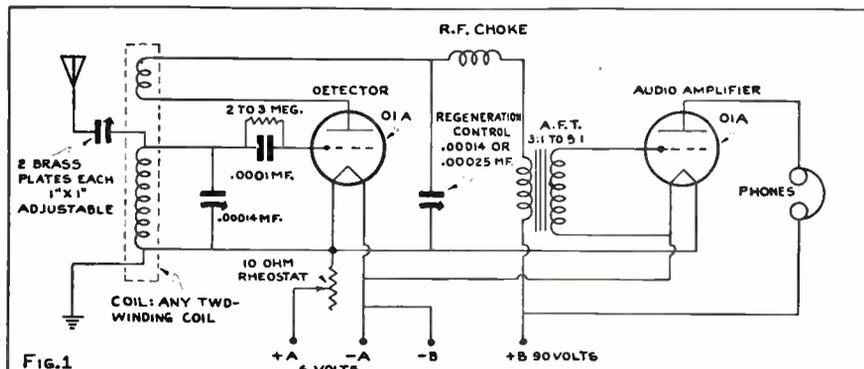
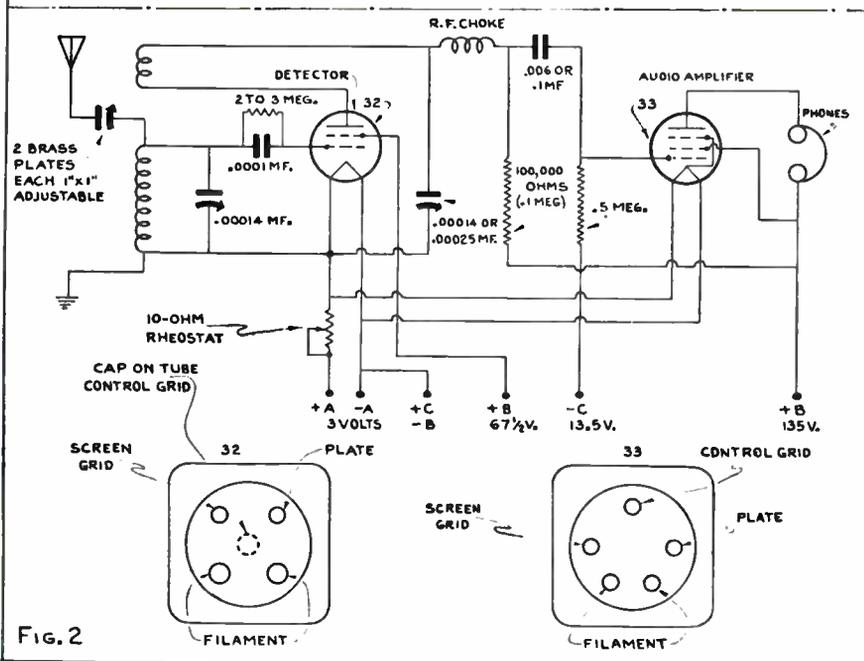
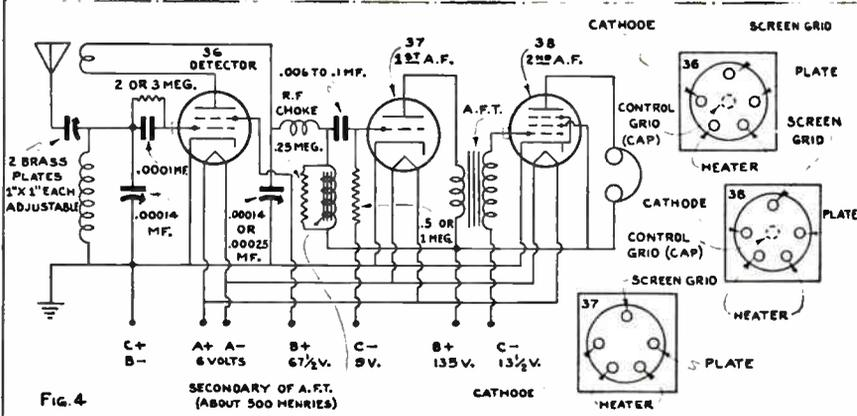
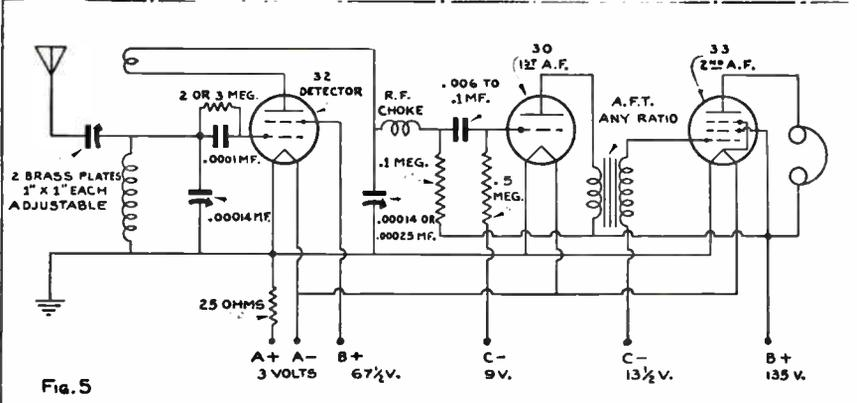

FIG. 1
FIG. 2
Fig. 4
Fig. 5
Another point of considerable importance is the fact that the angle at which the original wave from the transmitter strikes the ionized layer determines the distance between the transmitter and the zones of reception. This point is illustrated in Fig. 2. The solid line corresponds to a signal of, let us say, 10,000 kc. (30 meters), while the dashed lines correspond to another signal of the same frequency, but making an angle with a vertical line VT of *a'* instead of *a*. The first signal strikes the earth at points R1, R2, R3, R4, etc., while the second strikes the earth at R', R''.
Aside from the fact that the skip distances of the second signal are greater than those of the first signal, another phenomenon occurs. Suppose the angles of the original signals from T remain as illustrated in Fig. 2, but the frequency of the first signal is increased from 10,000 kc. to, let us say, 30,000 kc. As stated previously, the higher frequency signal will penetrate the layer to a greater extent than the lower frequency signal, so that the one making the smallest angle with the line
One of the most popular sets a few years ago was the original *Junk Box* receiver designed by our own Robert Hertzberg. The receiver is extremely simple: it uses two tubes, both 01A's, in a conventional, time-tested circuit. See Fig. 1. There have been no great advances in circuit design since this set was developed; to obtain better reception, all that can be done is to install more modern tubes—tubes that are designed to deliver greater signals.
The revised diagram is shown in Fig. 2. The first thing to do is to replace the four-prong socket used with the audio 01A with a five-prong socket; the same socket may be used with the 32 as was used with the first tube the 01A—before. Thus, only one new socket is required. The connections to the first tube socket remain the same substantially; the former control grid post is now the screen connection, while the grid leak and grid condenser connect to the cap on the top of the 32 tube. Next, remove the audio transformer, and in place of its primary insert a 100,000-ohm resistor (100,000 is the same as .1 megohm, or meg.); in place of its secondary, insert a .5 megohm resistor. Then connect the junction of the r.f. choke and
the .1 meg. resistor to the grid of the 33 through a fixed condenser which may have any value between .006 and .1 mf. The 10-ohm rheostat is retained. Connect the screen grid of the 32 to 67.5 volts and the screen of the 33 to the B plus side of the phones. Finally, connect the various C leads, finish the few connections to the socket of the 33, and the job is finished. For convenience, the socket connections of the 32 and 33 are given in the insert of Fig. 2.
Note that the original circuit of Fig. 1 used no C bias on the audio stage. This point was not overlooked in the original design of the set, but since it was made from spare parts in the junk box, the question of quality was not considered important. In the revised version of Fig. 2, a C battery is necessary for the successful operation of the output tube.
Another point of interest is the fact that the audio transformer used in Fig. 1 was replaced by a standard resistance-condenser combination. True, transformer coupling gives better results—from the standpoint of volume—than resistance coupling, but not in cases where the coupling takes place from a screen-grid tube. Many sets use the second or primary of audio transformers in place of the .1 meg. resistor shown in Fig. 2; however, the resistor is to be preferred. Try both and see which works better in your own case.
**6-volt operation:** Figure 4 is the new circuit suitable for 6-volt operation. A 36 is used as the detector. A 37 in the first-audio stage, and an 38 in the last audio stage. The socket connections of these tubes appear in the insert in the figure. The first significant change is the use of a choke and resistor in place of the first a.f.t. in the plate circuit of the 36. This arrangement allows the d.c. plate current to pass through the choke with a minimum loss in voltage. The .25 meg. resistor across this choke is used as the coupling unit. The choke does not couple, because its impedance at 1,000 cycles is far greater than 250,000 ohms (.25 meg.), so that the resistor shorts it only as far as the signal is concerned. Thus, we gain one of the best advantages of the
**2-volt operation:** The circuit for 2-volt operation requires, of course, a different tube arrangement. In this case, we suggest a 32 as the detector, a 30 in the first a. f. stage, and 33 in the output stage. Here again we revert to the resistance-coupled idea discussed with reference to Fig. 2. For the benefit of those curious experimenters who want to know the "why" of everything, it might be well to state why a combination choke-resistance combination is used in one case, but not in another. The reason lies in the difference in plate resistance between the 32 and the 36. The type 32 tube has an internal plate resistance of 1.15 megohms, while the 36 has an internal plate resistance of but 200,000 ohms (.2 megohm). Since the higher impedance tube cannot have a choke of reasonable size in its plate circuit, because of the shunting effect of the distributed
The socket connection for the tubes used in the circuit of Fig. 5 are shown in either Fig. 2 or Fig. 4; the socket connections for the 30 used in Fig. 5 are exactly the same as for the 01A used previously.